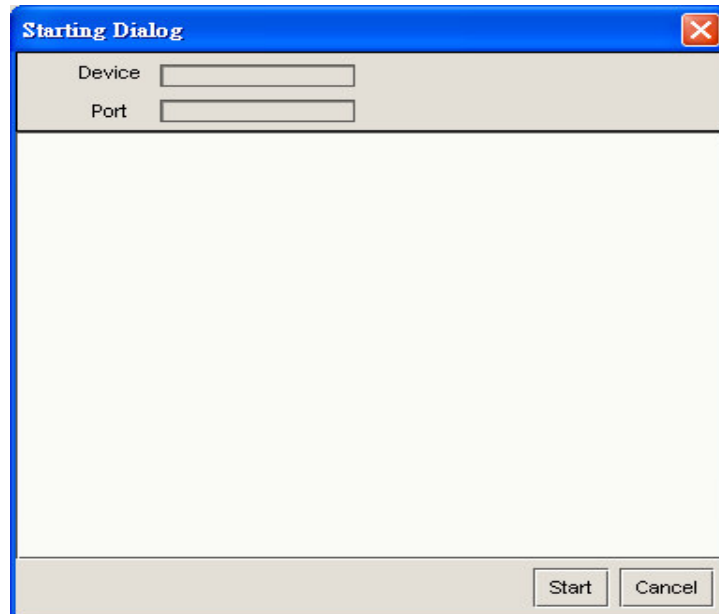

Figure 9-7. Deploy progress dialog
Step 2: Push the apply button to apply this alarm profile to selected profiles. The system will display the deploying dialog to show the display result as below Figure 9-7: